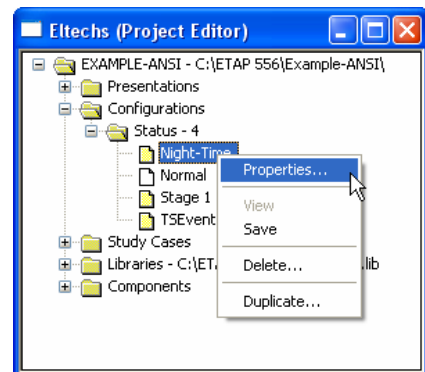

Fig. 11
- (c) Right-click the name of the configuration you wish to rename then click on “Properties...” pop-up command. See Fig. 11.